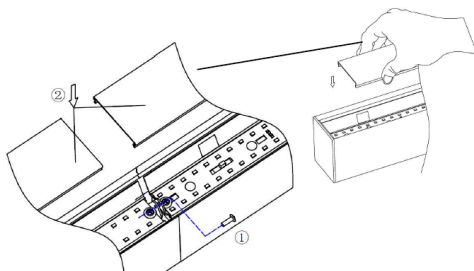

Fig. 6.7
4. Reattach the LED reflector strips and put the remaining screw in place (Fig. 6.7). Screw them back onto the plates.